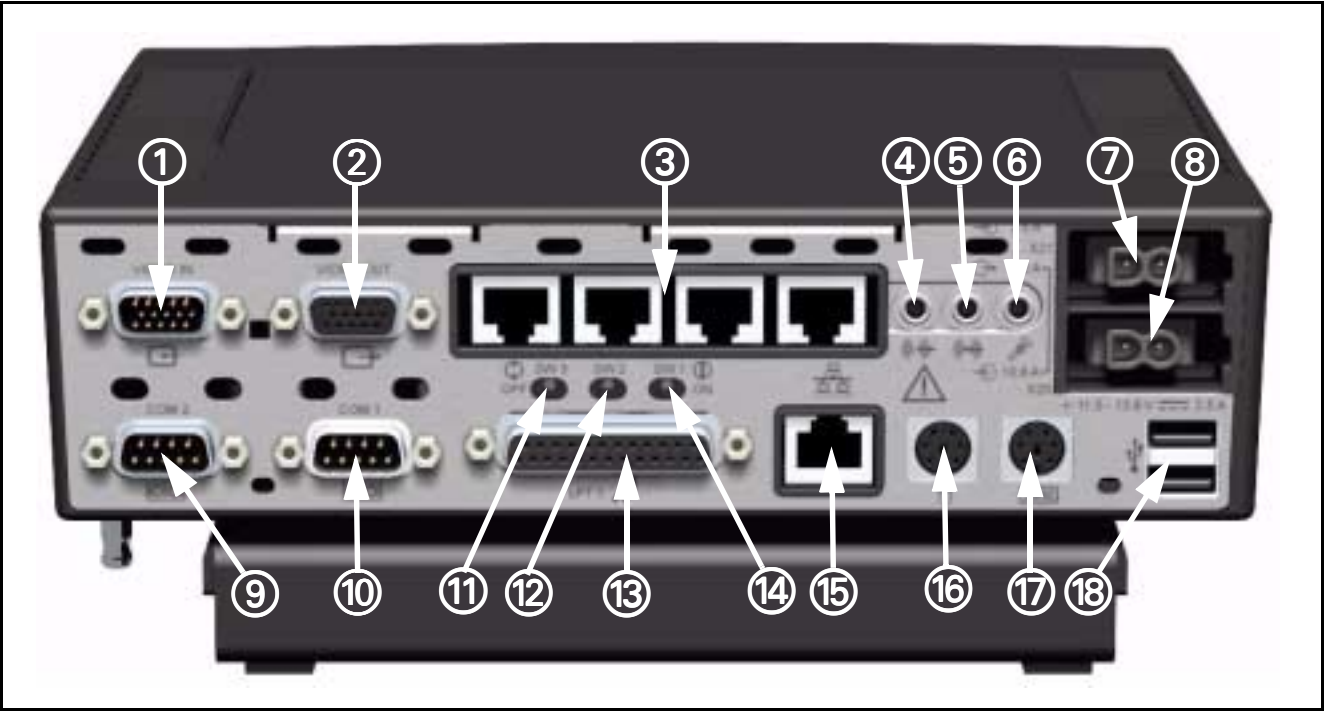
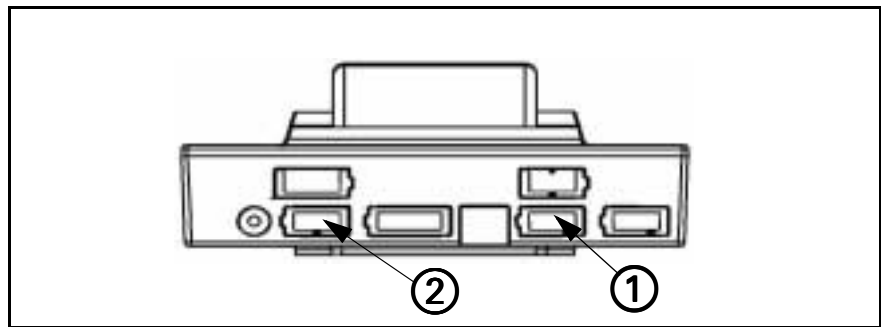
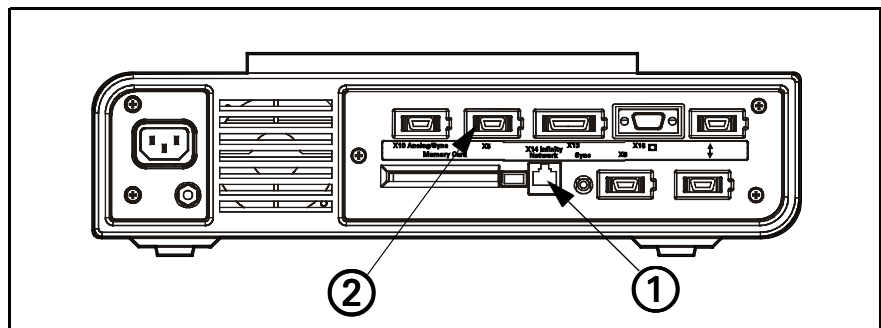
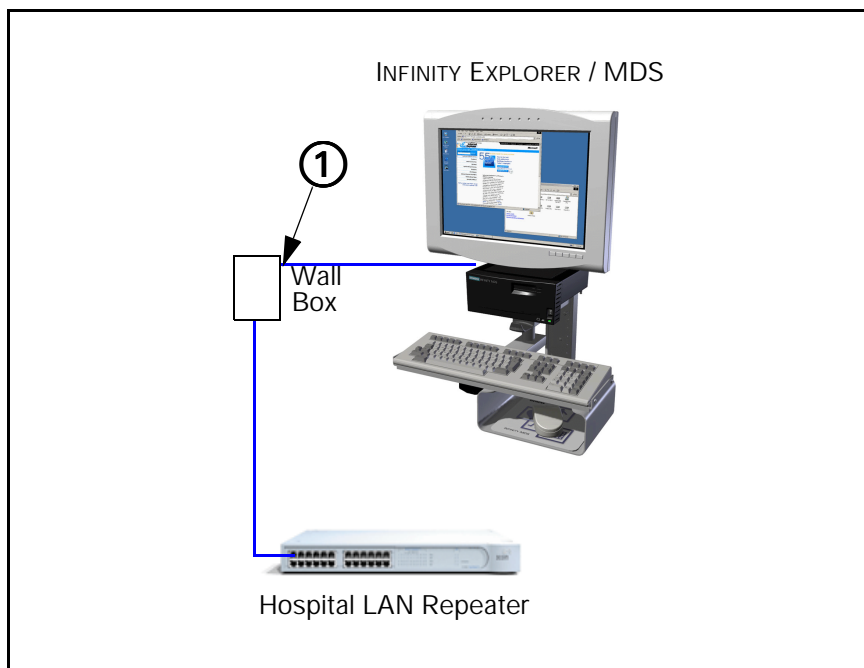

Figure 12-1 MDS (rear view)
Figure 12-2 IDS (rear view)
Figure 12-3 SC 8000 (rear view)
Figure 12-6 Hospital LAN Connection
1. Insert and tighten 15-pin video cable from monitor into video out connector (② in Figure 12-1 on page 18) on rear of MDS.
2. Plug Keyboard cable into keyboard connector (⑰ in Figure 12-1) on rear of MDS.
3. Plug mouse cable into mouse connector (⑱ in Figure 12-1) on rear of MDS.
5. Plug power connector from MDS AC power adapter into Power In connector (⑦ in Figure 12-1) on back of Medside Data Station, and then plug power cord from AC adapter into hospital grade outlet.
- 1.1) Plug one end of ethernet crossover cable (supplied) into one of MDS repeater ports (see ③ in Figure 12-1 on page 18).
- 2.1) Plug one end of shielded Ethernet patch cable into one of MDS repeater ports (③ in Figure 12-1).
- 2.2) Plug other end of shielded Ethernet patch cable into Ethernet port (① in Figure 12-2) on rear of IDS (if SC7000/SC9000XL) or on rear of SC8000 (① in Figure 12-3). Installed Adv. Comm Option II required.
- 1.1) Plug one end of Ethernet crossover cable (supplied) into one of MDS repeater ports, ③ in Figure 12-1.
- 2.1) Plug shielded Ethernet patch cable into Ethernet port (① in Figure 12-2) on rear of IDS (if SC7000/SC9000XL) or on rear of SC 8000 (① in Figure 12-3). Installed Adv. Comm Option II required in SC 8000.
Plug one end of Ethernet Patch Cable into Hospital LAN RJ45 connector (15 in Figure 12-1 on page 18) on rear of MDS, and then plug other end of cable into Hospital LAN RJ47 Wall Box Connector (1 in Figure 12-6)
Plug one end of video cable into X5 on rear of IDS (2 in Figure 12-2), and then plug other end of cable into Video In (1 in Figure 12-1) on MDS.
Plug one end of video cable into X5 on rear of SC8000 (2 in Figure 12-3), and then plug other end of cable into Video In (1 in Figure 12-1) on MDS.